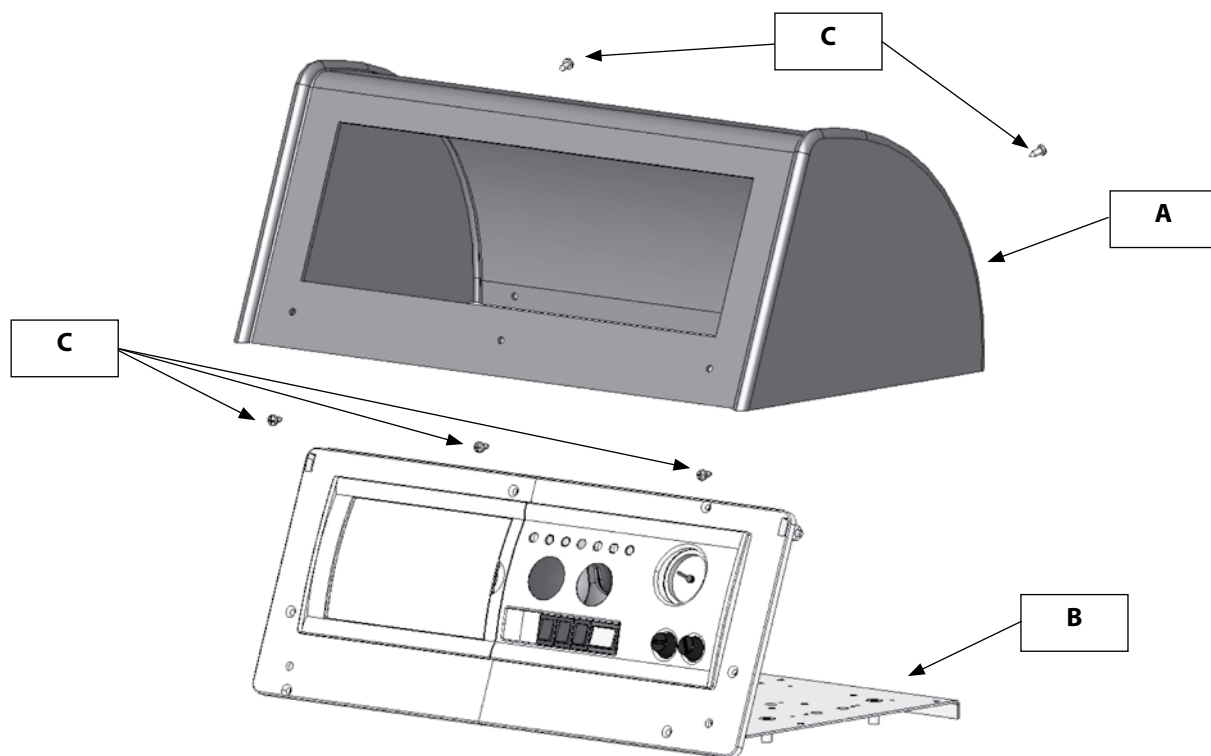

fig. 22
- 1)** perform the preliminary operations shown in figs. 22, 23 and 24; arrange for the electrical connections of the control panel;